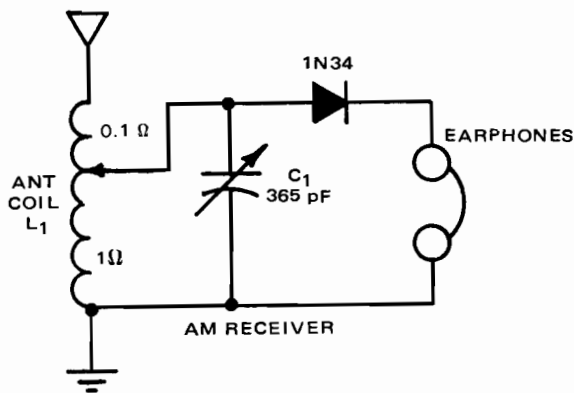

Fig. 20-1-2
5. Construct AM receiver part of system as in Fig. 20-1-2.